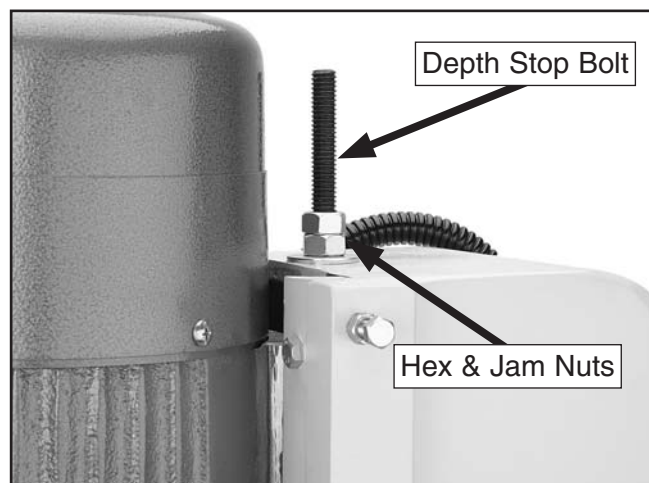

Figure 20. Example of depth stop adjustment.
5. While keeping the chisel at that depth, thread the bottom depth stop hex nut down to the head casting, then secure it in place with the top jam nut, as shown in **Figure 20**.